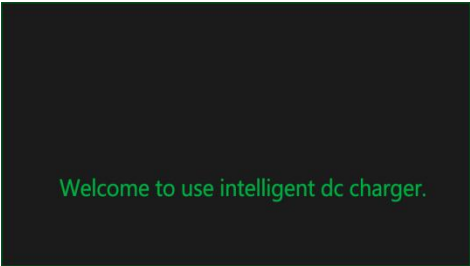

Figure 1 Welcome screen
3.1.1 After power-on, The screen shows as Figure 1 and Figure 2 interface.